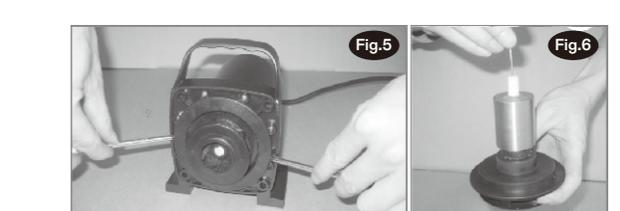

Fig.5 Fig.6
2. Loosen the 4 screws ①.
3. Remove the pump housing ⑤ from the motor housing ②.
4. Remove the rotor assembly ③ from the motor housing (see Fig. 5)